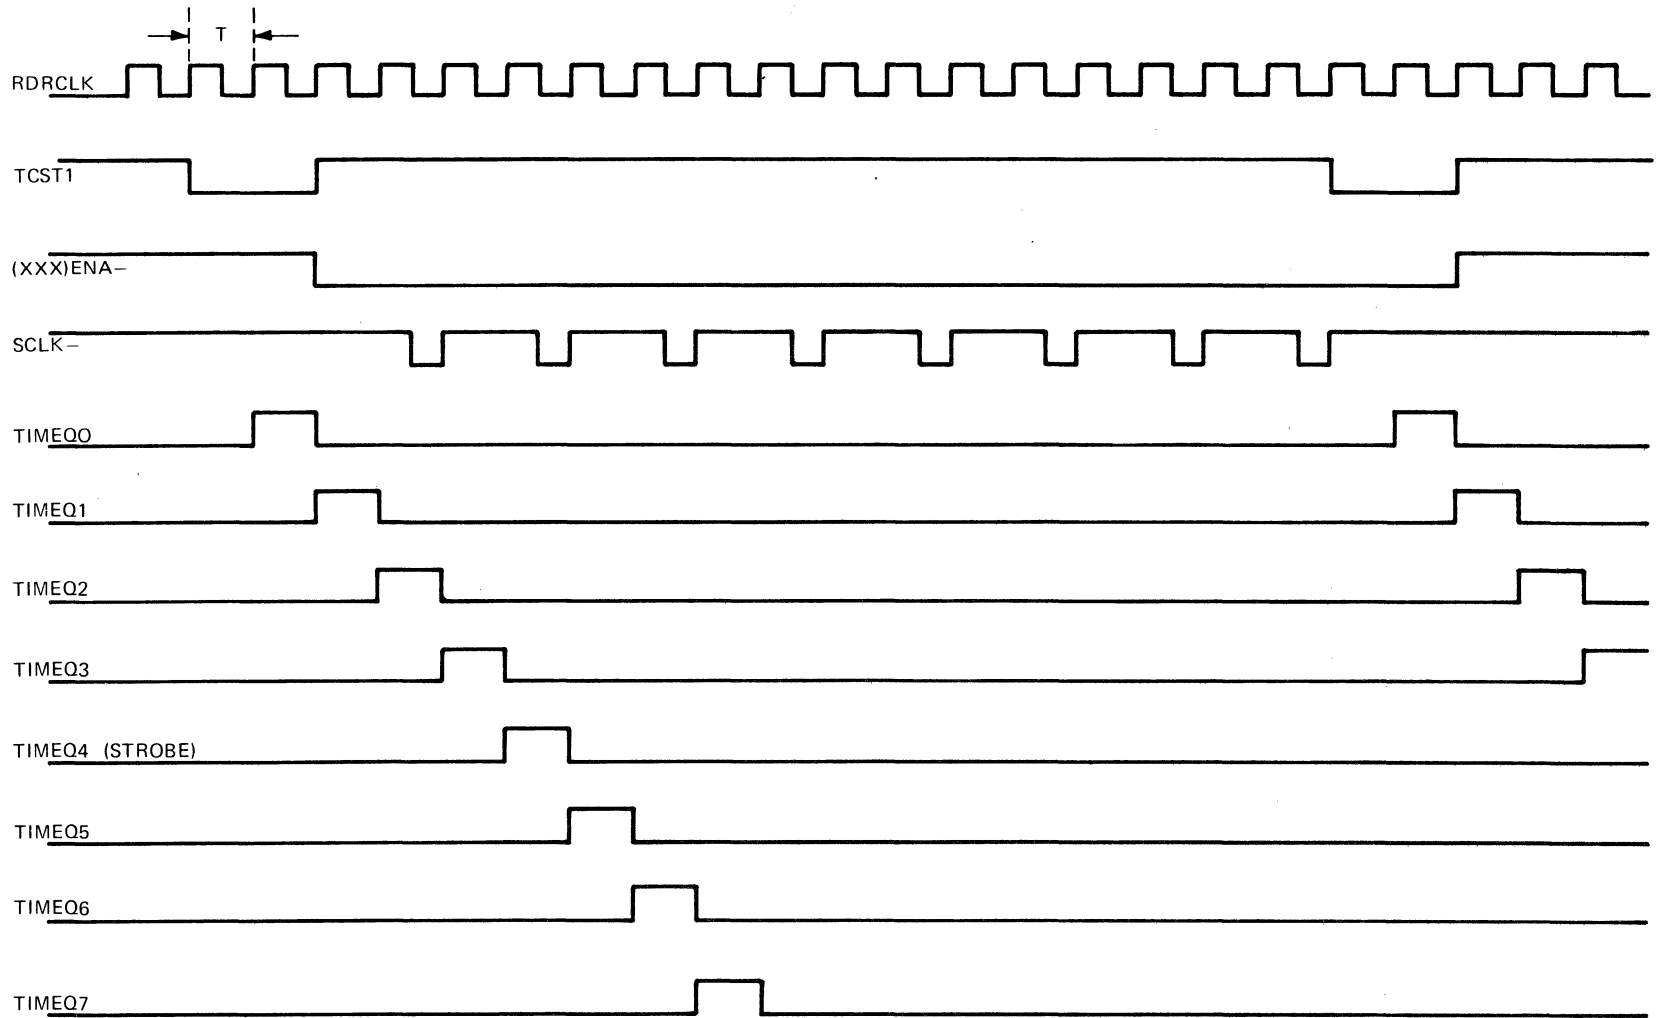

FIGURE 3-9.13. REMOTE DEVICE CONTROL TIMING DIAGRAM
The strobe is always issued at TIMEQ4 during each 88 μ sec period of the timer generator (between TIMEQ0 times). The timer generator times are synchronized to terminal control via the terminal control state-ONE (TCST1) signal as shown in Figure 3-9.13. Therefore, all the
- (2) 1200-baud print LOCAL. A double-character decoder output line is provided for the 1200-baud print local option to use. This line is true only between the falling edge of the eighth system clock (SCLK-) for each SRVENA- and the rising edge of the TIMEQ0 signal (see the RDC timing diagram, Figure 3-9.13). The 1200-baud print-local option is described in paragraph 3-9.8.4.e.
- (3) DC1-4 ON/OFF. Upon receipt of the double-character decoder DC1-to-4 OFF code, a latch is set at TIMEQ0 which inhibits the DC1 through DC4 codes from being acted upon when received from the line. This is done by gating out the SRVENA- signal going to the DC1-to-DC4 enabling option logic and switches, so that these functions cannot be strobed into the holding registers on a SRVENA- signal at timeQ0. The latch (DC1-4 OFFQ) is reset upon receipt of the DC1-4 ON code from the line or by switching the terminal off-line or by switching off the RDC OFF toggle switch.
- (4) Status Request. Upon receipt of the status request code from the line, a status flipflop (STATUSQ) clocks in the state of the status (STAT-) output line from the double-character decoder at TIMEQ0. At TIMEQ5 an auxiliary-1 request (AUX1REQ-) is sent to terminal control, and at TIMEQ6 the status flipflop is cleared. When terminal control sends back an auxiliary-1-enable-to-send (AUX1ENAS-), the status is clocked from the status register on the RDC card to the transmitter and sent to the line as a 7-bit ASCII character. All bits of the status character are obtained from information on the KSR motherboard except the printer-off (PRNOFF-) indication which comes from the serial data bus during the status enable (STATUSENA-) time from terminal control.
- (5) ASCII CAN character on playback error. The playback error status bit (RERROR) is monitored from an available KSR motherboard signal. When a playback error occurs, the RERROR indication is clocked into a register on the RDC PC card at TIMEQ0 (see RDC timing, Figure 3-9.13) and becomes RERRORQ. The RERRORQ signal going HIGH clocks a cancel/status flipflop (if the playback is on-line and ready and the OPTION switch is closed) which selects which data will be sent to the serial data bus on the next auxiliary-1-enable-to-send (AUX1ENAS-) signal from terminal control.
The cancel/status flipflop is reset during the CANRSTENA period at TIMEQ0 as shown in Figure 3-9.13, and data sent after that will come from the status register until another playback error is detected. The CAN character option is inhibited by either opening the pencil switch (S2-7)